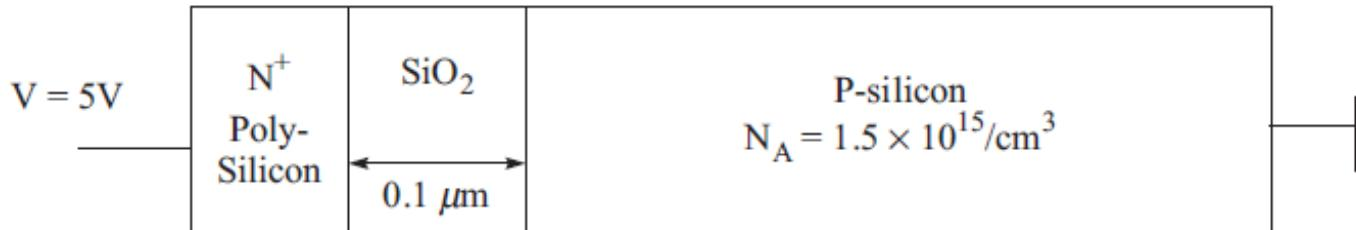

Figure 4: A cross-sectional view of a MOS capacitor
- [b] A gate voltage $V_G = 5$ V is applied to the MOS capacitor shown in Figure 4. If the threshold voltage V_{Tn} of this structure is less than 5 Volts determine the following: